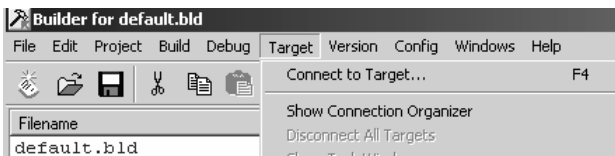

FIGURE 12 Activating the Connection Organizer.
1. Start the MULTI debugger. In the Target menu, select Show Connection Organizer (Figure 12).